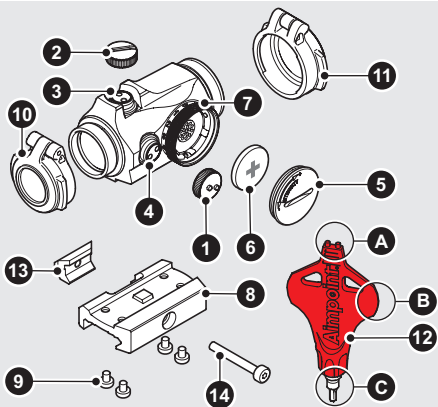

Fig. 1 Overview (configuration)
- a Remove the battery cap (5) using the tool (12 B).
- b Insert battery (6) with positive end (+) toward battery cap (5) as can be seen in Fig. 1.
If the sight is equipped with the mount shown in Fig. 1, follow the described procedure. For installation with other mounts, see accompanying instruction.